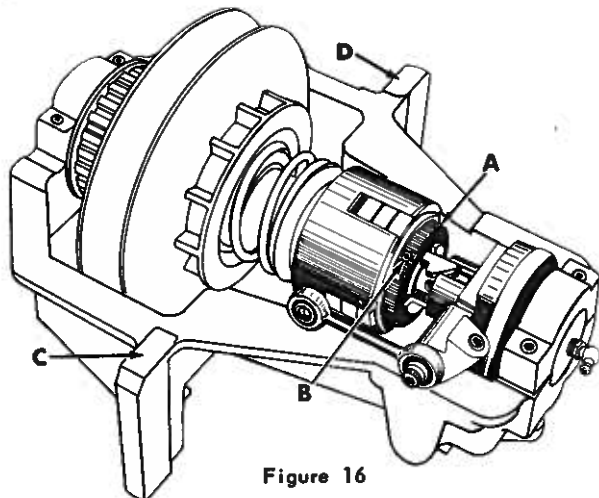

Figure 16
2. Loosen the lock screw (B, fig. 16) in the adjusting ring (A).
3. Measure to make sure that points (C & D, fig. 16) on countershaft bracket are the same distance from top of head pedestal.